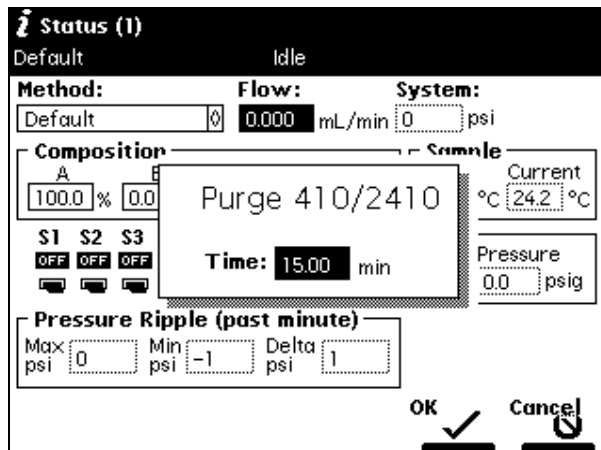

Figure 2-6 Purge 410/2410 Dialog Box
4. Select **Purge 410/2410**, then press **Enter**. The Purge 410/2410 dialog box appears (Figure 2-6).